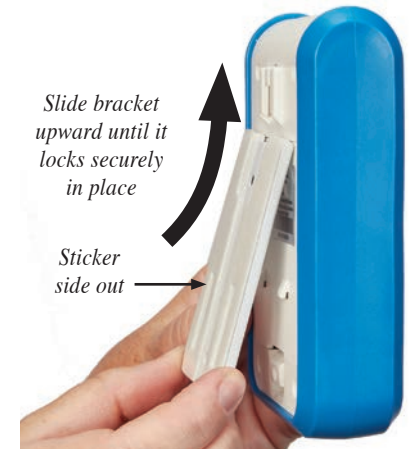

Figure 5
- Slide bracket upward until it locks securely in place (Fig. 5).